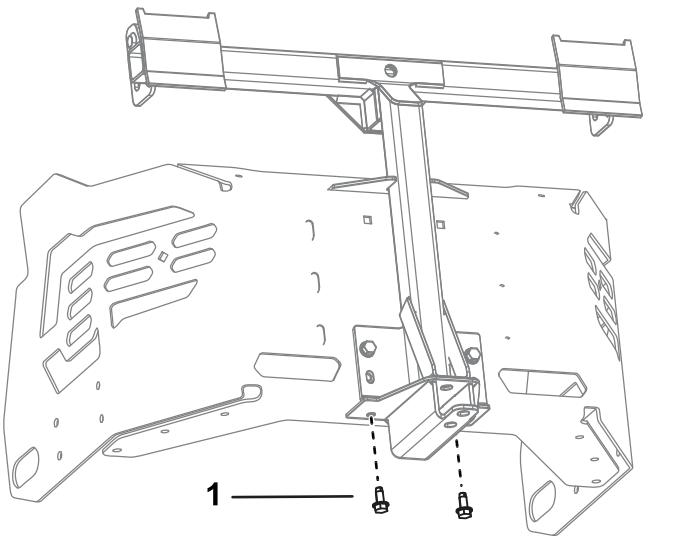

Figure 4
3. Remove the existing 2 self-tapping screws from the bottom of the machine frame (Figure 4).
5. Position the pivot frame upward, and secure the pivot frame to the bottom of the machine frame using 2 self-tapping screws (5/16 x 3/4 inch) as shown in Figure 4.